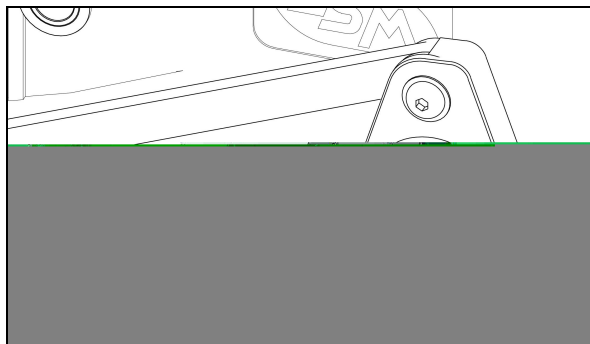

Fig 1
Set the machine in the cut after mode (see P8). With the machine sitting in the home position, the push rod (A) should be at the start of the slope of the thread draw-off cam (B), as shown in Fig 1. To adjust, loosen screws (C) and rotate the cam. This will allow for maximum thread draw off for the top thread.